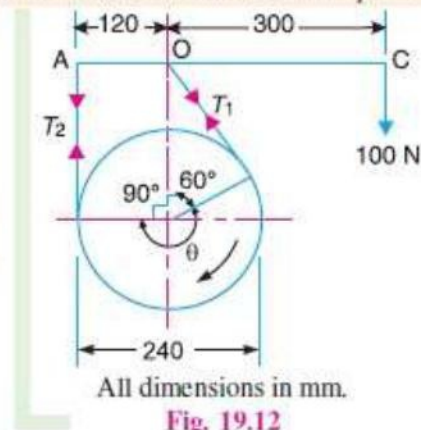

Fig. 19.12
**Example 19.7.** The simple band brake, as shown in Fig. 19.12, is applied to a shaft carrying a flywheel of mass 400 kg. The radius of gyration of the flywheel is 450 mm and runs at 300 r.p.m.
From the geometry of the Fig. 19.12, angle of lap of the band on the drum,